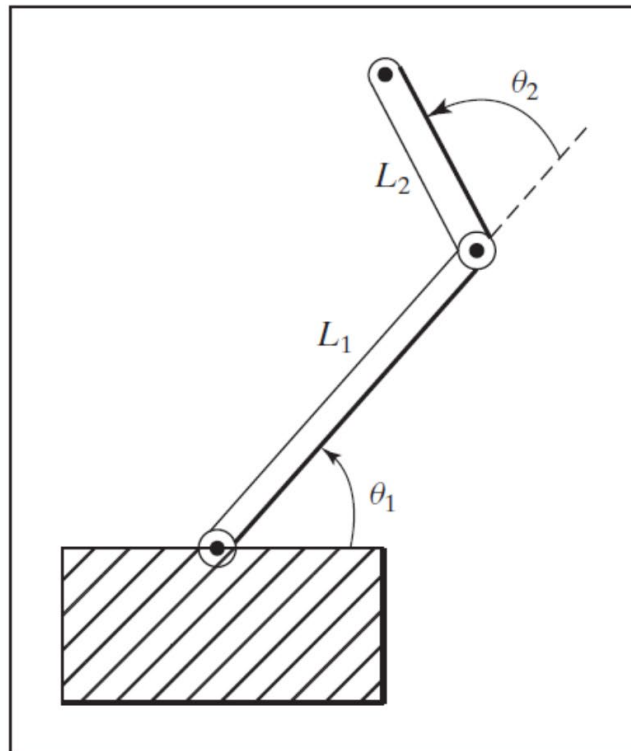

FIGURE 4.13: Two-link planar manipulator (Exercise 4.9).
**4.9** [26] Figure 4.13 shows a two-link planar arm with rotary joints. For this arm, the second link is half as long as the first—that is,  $l_1 = 2l_2$ . The joint range limits in degrees are